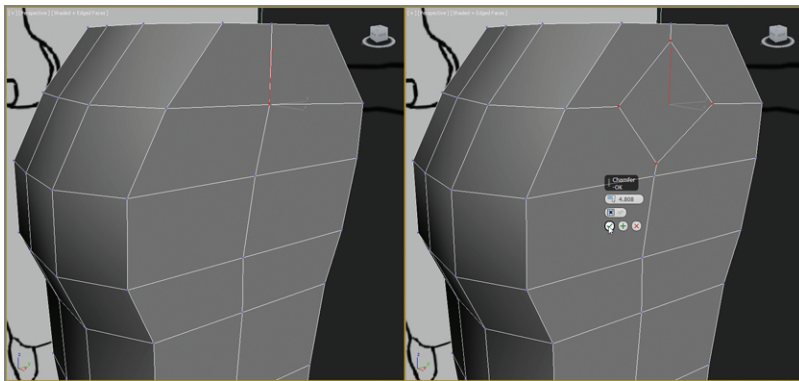

FIGURE 7.10 Select the vertex (left image). Use Chamfer to create a new polygon where the arm will be positioned (right image).
13. Exit See-Through mode (Alt+X), switch to Vertex mode, and select the vertex on the left side below the top edge, as shown in Figure 7.10, (left image).
15. Use a Vertex Chamfer Amount value of 4.808, and click OK () in the caddy to commit the action, as shown in Figure 7.10 (right image). This is where the arm will be positioned.